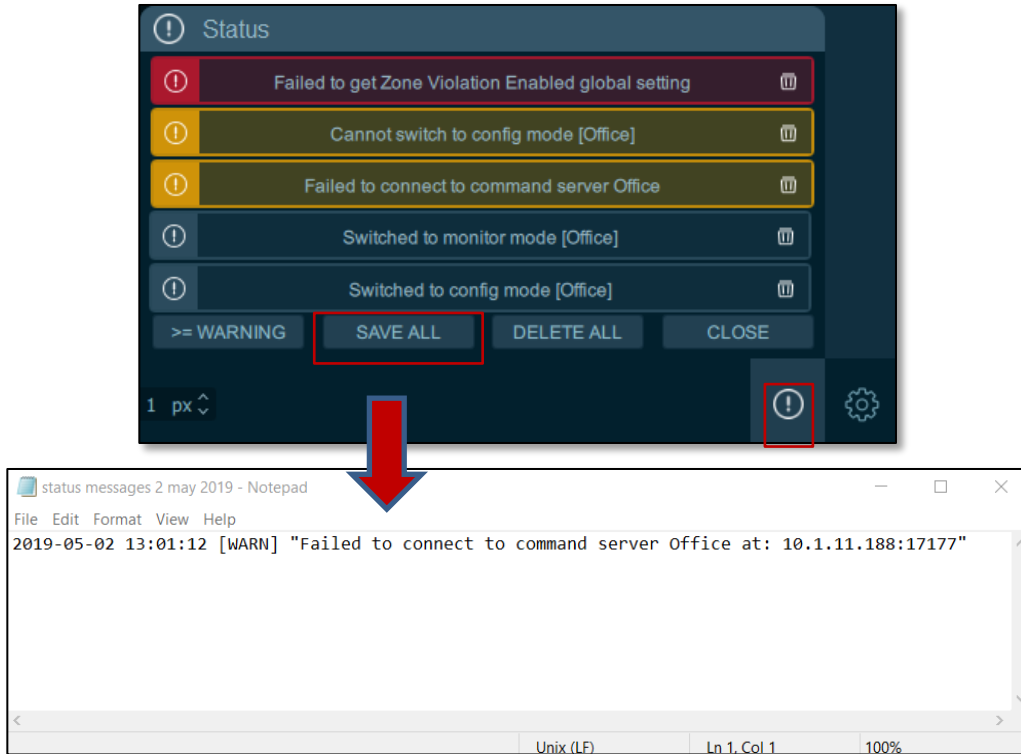

Figure 40. Status Button to Access Notifications (top), Saved Messages (bottom)
5. Click  to save the current list to the filepath and filename specified in the file browser. See Figure 40. Status Button to Access Notifications \(top\), Saved Messages \(bottom\).